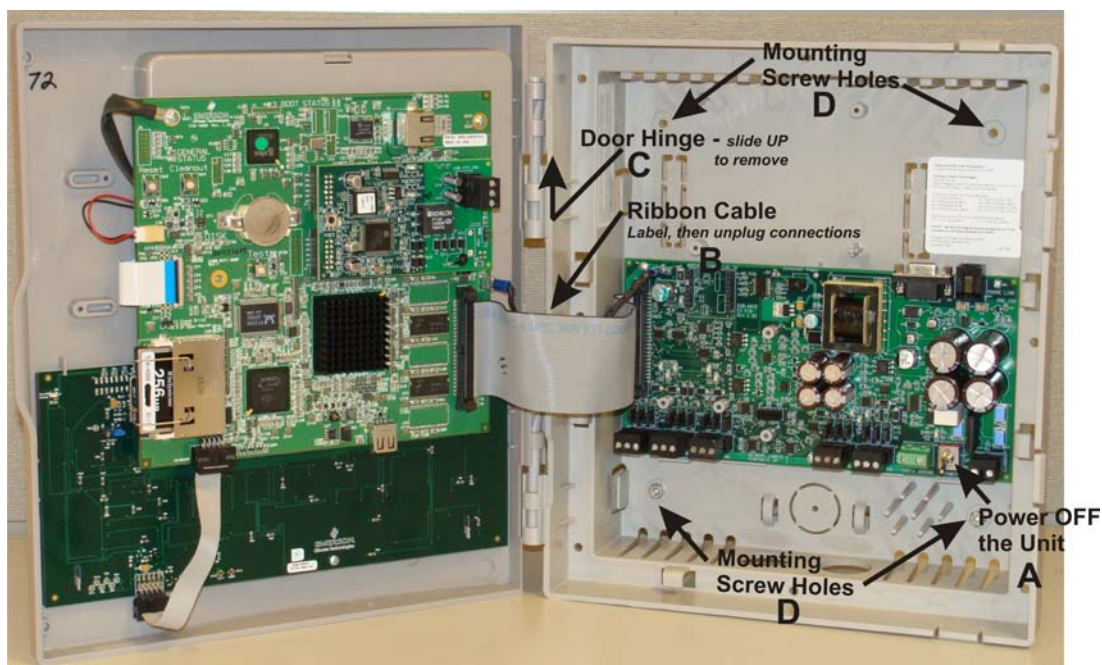

Figure 1 - E2 Version 4.0
1. Open the case of the E2 unit to be removed and power down the unit (Refer to **A** in **Figure 1**).
2. Before disconnecting cables, label all communication and power connections in the E2 being removed for easy identification when the cables are reconnected to the new unit (Refer to **B** in **Figure 1**).
4. From the main circuit board, remove the Ethernet and ribbon cables (Refer to **B** in **Figure 1**). Also remove any communication cards mounted inside of the case above the PIB board (if applicable).
5. Slide the door off the case, which will make it easier to remove the back of the unit from the wall (Refer to **C** in **Figure 1**).
6. Remove the 4 screws that mount the unit to the wall and remove the unit (Refer to **D** in **Figure 1**).
7. Verify that the new unit is powered down before mounting (Refer to **A** in **Figure 1**).